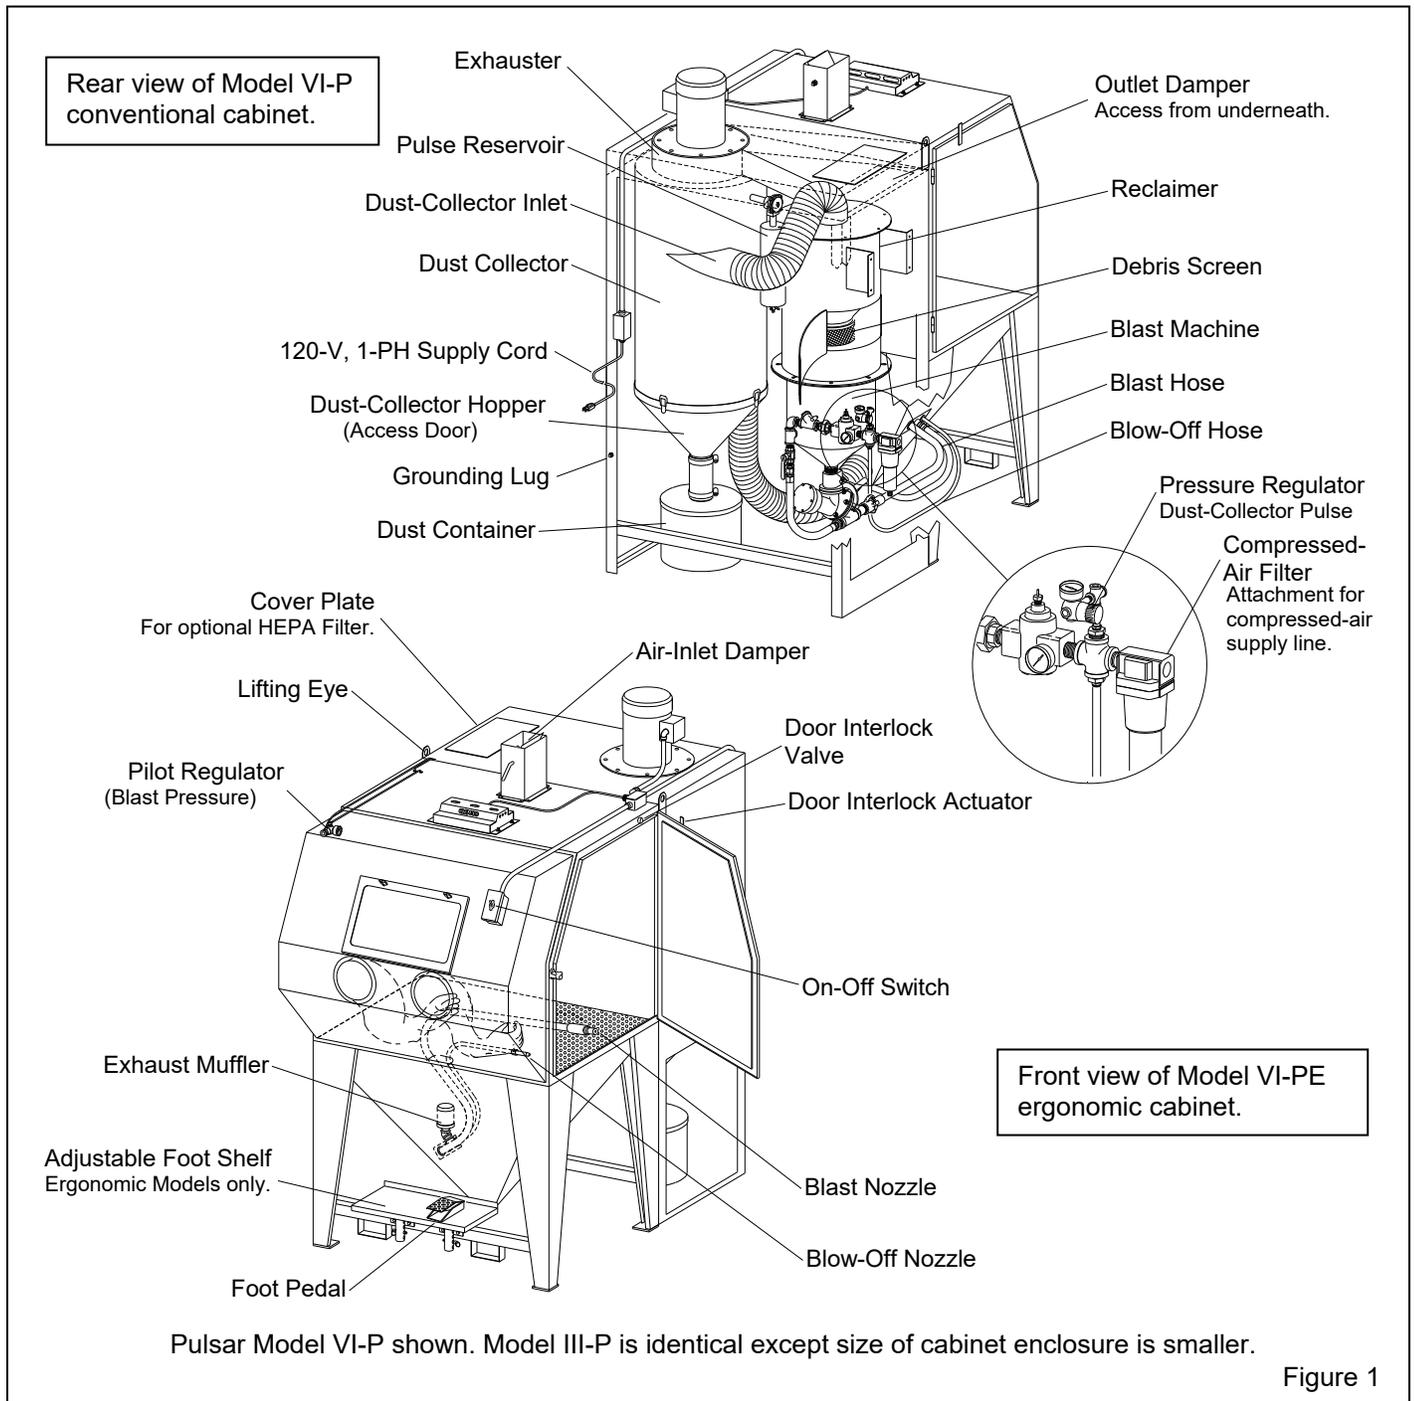

Figure 1
**2.1.1** Refer to Figure 1 for the general arrangement. Select a location where compressed air and electrical service are available. The cabinet location must comply with OSHA and local safety codes. Allow for full access to all doors and service areas and for efficient handling of large parts.